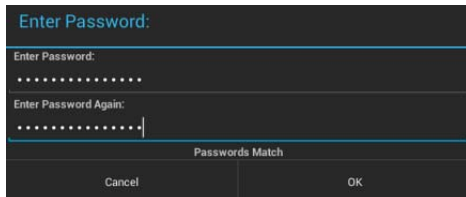

FIG. 98 Enter Password window
- Press **OK** to invoke the *Enter Password* window (FIG. 98): .